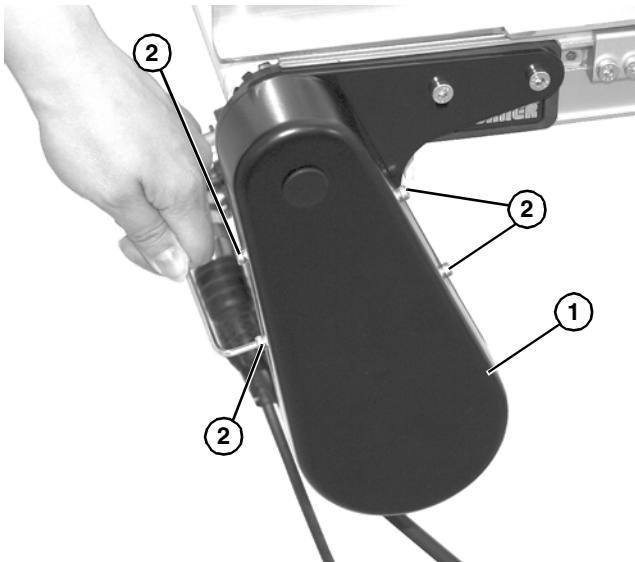

Figure 49
1. Remove four M4 screws (**Figure 49, item 1**) and cover (**Figure 49, item 2**).
5. Install cover (**Figure 49, item 1**) with four (4) screws (**Figure 49, item 2**). Tighten screws to 14 in-lb (1.6 Nm).
1. Remove four (4) screws (**Figure 49, item 2**) and remove cover (**Figure 49, item 1**).
6. Install cover (**Figure 49, item 1**) with four (4) screws (**Figure 49, item 2**). Tighten screws to 14 in-lb (1.6 Nm).